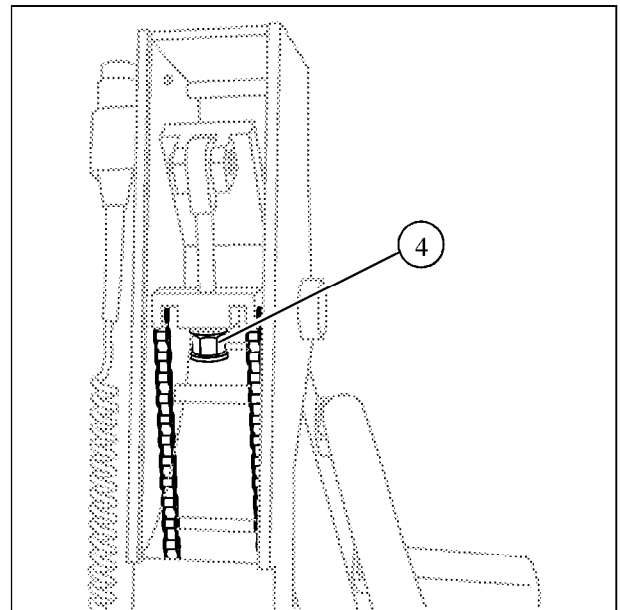

Fig. 3
- Tighten the screw (4/Fig. 3) using a 17-mm open-ended wrench. Adjust the spring tension in such a way, that there is a balance when the support arm is in the horizontal position, i.e. that equal force is required to lift and lower the tube assembly.